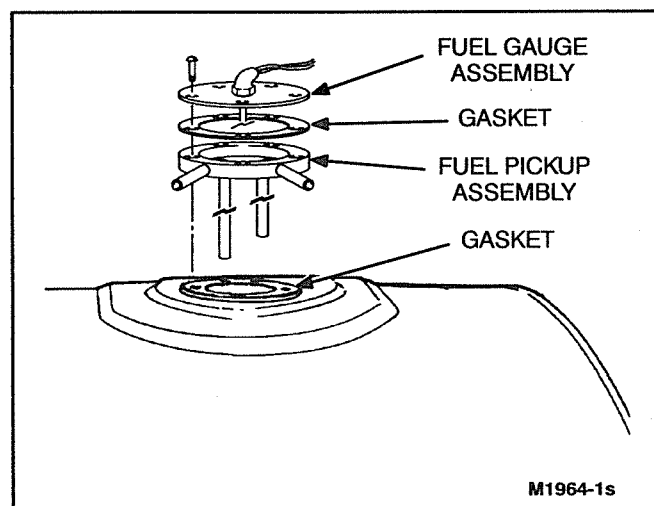

FIGURE 10-3. GAUGE SENDING UNIT PICKUP ASSEMBLY
3. Install the fuel pickup assembly as shown in Figure 10-3. Install the gaskets as shown and tighten each of the mounting screws securely to prevent fuel leakage.